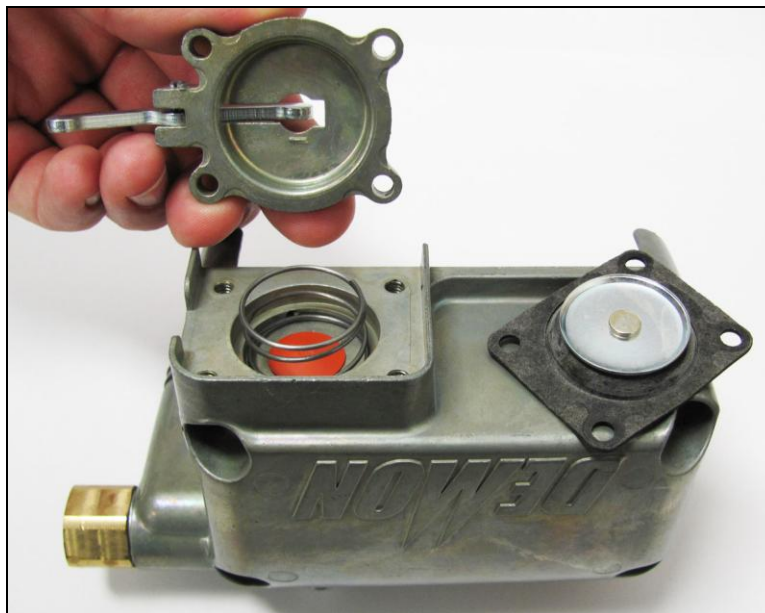

Figure 5
5. Removal of four Phillips screws allows the accelerator pump housing to be lifted from the fuel bowl (Fig. 5). The pump diaphragm is located below this cover. This should now be discarded as a new diaphragm is included with your package. A return spring is located beneath the diaphragm and it should be saved for reuse.